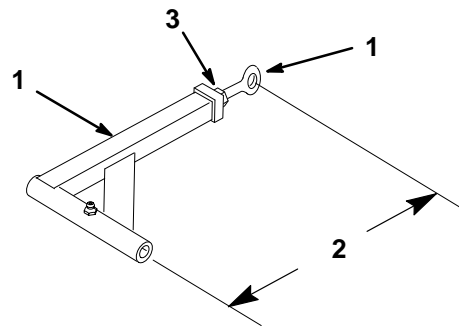

Figure 7
7. If the fixed idler contacts the end of the adjustment slot and more belt tension is required, a small change in the length of the push arms can be made (Fig. 7).
8. To adjust push arms, remove PTO drive belt, loosen jam nut and rotate ball joint counterclockwise, one turn at a time. Adjust each side the same amount (Fig. 7).